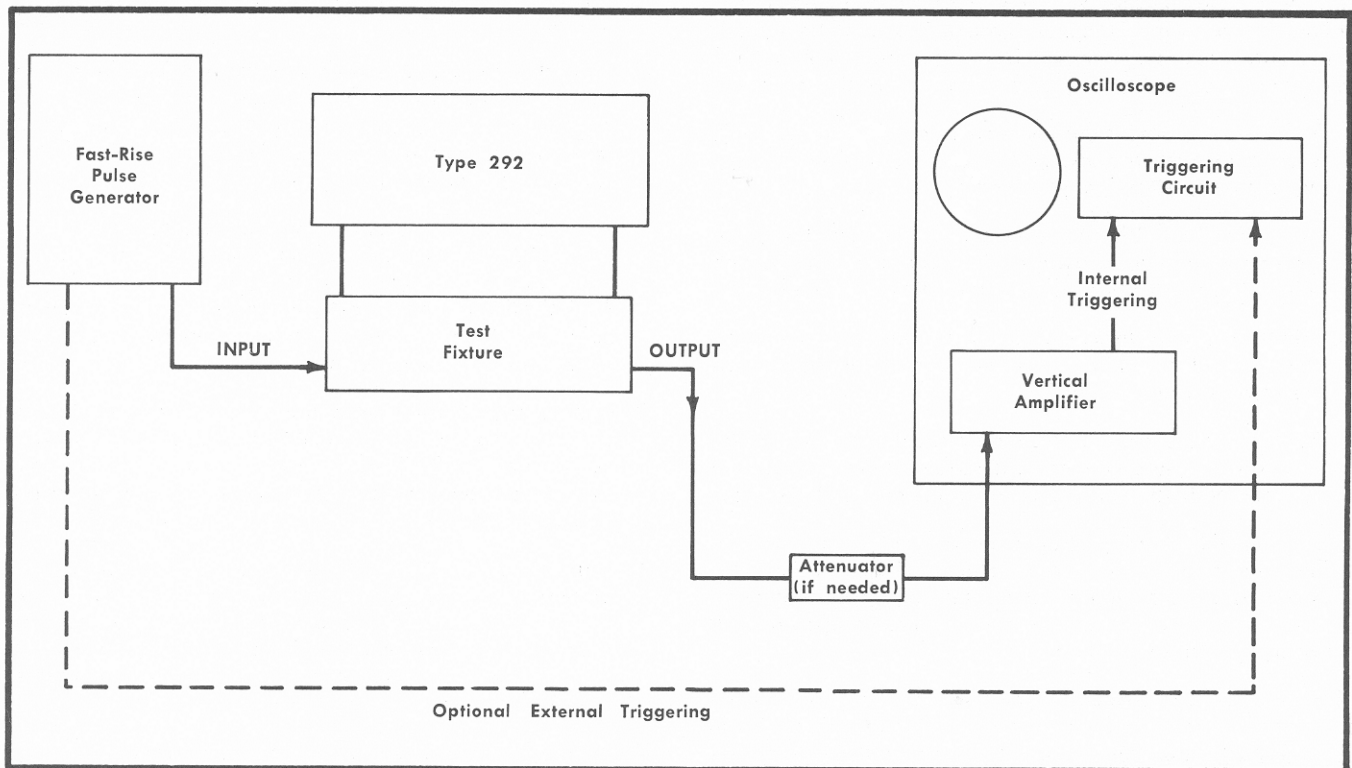

Fig. 2-32. Basic test system.
Vertical display voltage is obtained by diode current passing through the oscilloscope 50-ohm input impedance, thus providing 1 millivolt for each 20 microamps of diode current. The display voltage generated by the diode current can be reduced by connecting an attenuator between the test fixture and the oscilloscope, as shown in Fig. 2-32. However, with an attenuator between the test fixture and the oscilloscope, the current sensitivity is reduced by the attenuation factor. For example, if a 10X attenuator is used, each millivolt displayed equals 200 microamps of diode current.
1. With the test equipment connected as shown in Fig. 2-32, short across the test fixture by inserting a piece of $1/16$ " wide copper strap as you would a diode.
1. With the test equipment connected as shown in Fig. 2-32, short across the test fixture by inserting a piece of $1/16$ " copper strap as you would a diode.
1. Connect the test equipment as shown in Fig. 2-32 (the pulse generator is not needed for this procedure, but is necessary when measuring diode switching characteristics), and set the Type 292 bias current VARIABLE control to CALIB and the left BIAS CURRENT mAmps control to 10.